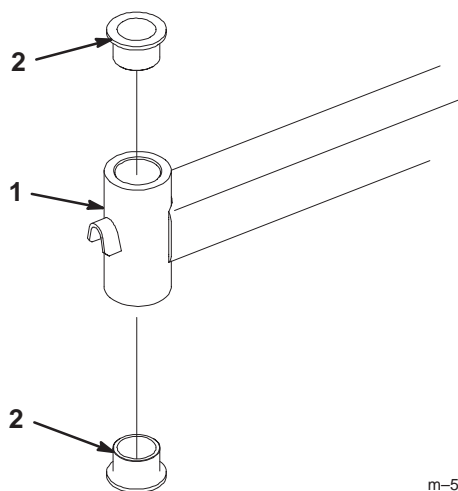

Figure 60
4. Insert a pin punch into the mounting tube and carefully drive out the bushings (Fig. 60). Clean the inside of the mounting tube.